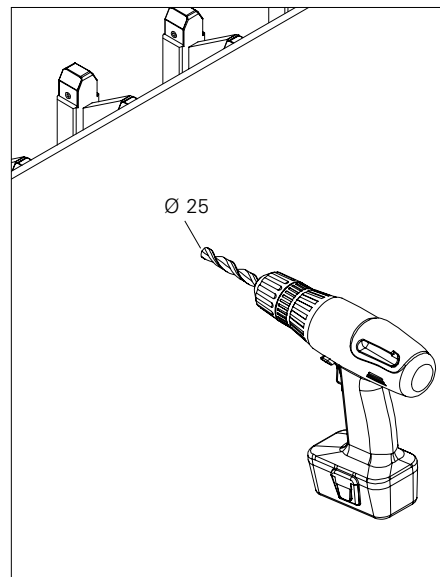

Fig. A5.07
2. Determine the set position and drill $\varnothing 25$ mm hole from the front of the formwork. (Fig. A5.07)